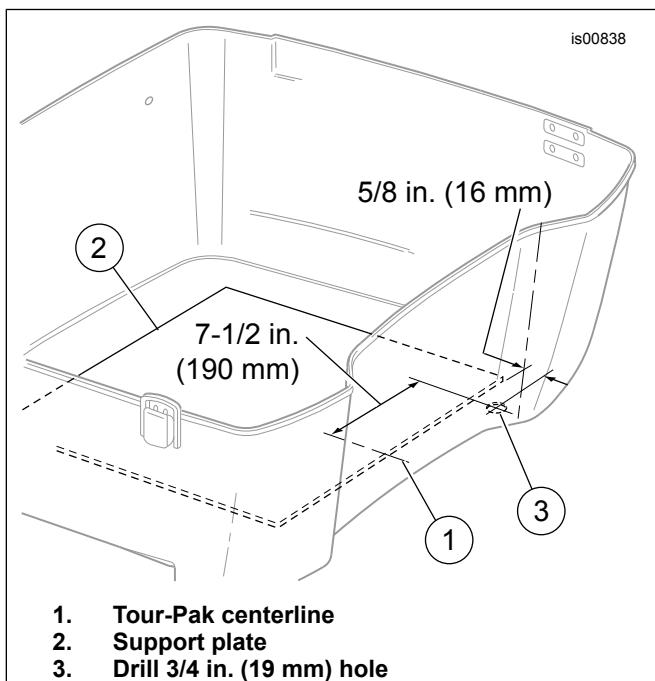

Figure 2. AM/FM Antenna Cable Drilling Location (Type 1 Tour-Pak)
- a. See Figure 2. Measure and determine the center (1) of the support plate (2) that covers the floor of the Tour-Pak.